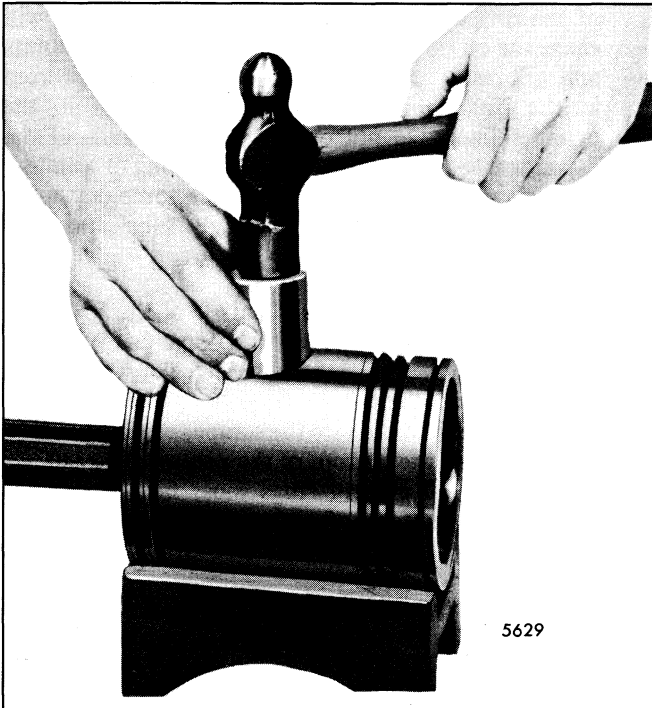

Fig. 18 - Installing Piston Pin Retainer using Tool J 24274-B
8. Place a new piston pin retainer in position. Then, place the crowned end of installer J 24274-B against the retainer and strike the tool just hard enough to deflect the retainer and seat it evenly in the piston (Fig. 18). The current piston pin retainer is .025^M-.027^M thick.